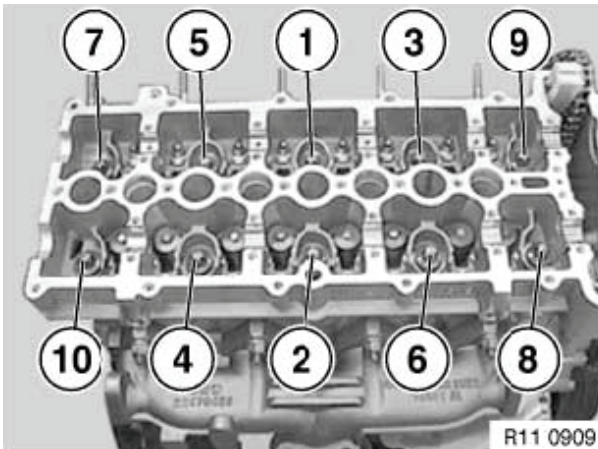
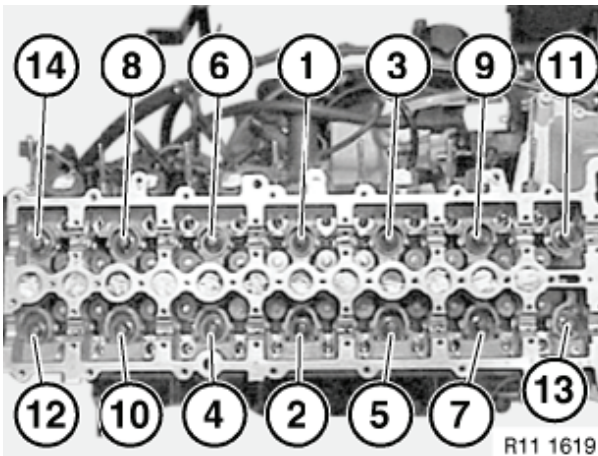
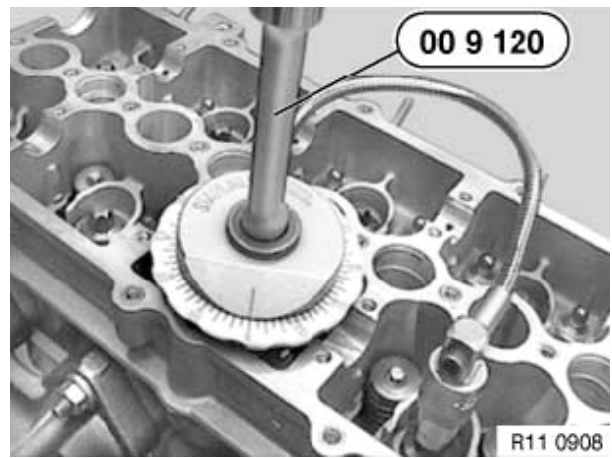

Figure 5-37
Figure 5-38
Figure 5-39
- Lightly oil threads of new bolts and install new bolts. Tighten the bolts in stages, and in the sequence shown (Figure 5-37) and (Figure 5-38). Use a torsion angle tool such as that shown (Figure 5-39). **NOTICE: NEVER reuse cylinder head bolts. New bolts must be installed whenever they are removed. NEVER wash off bolt coating.**